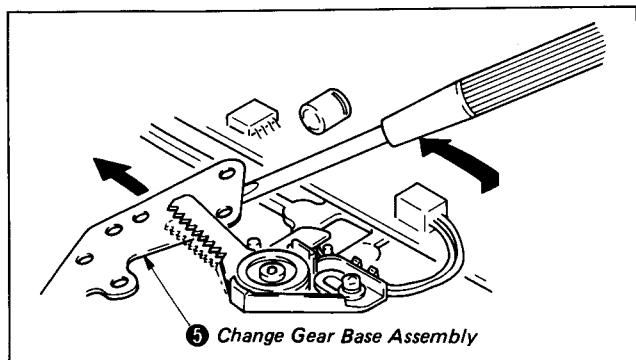
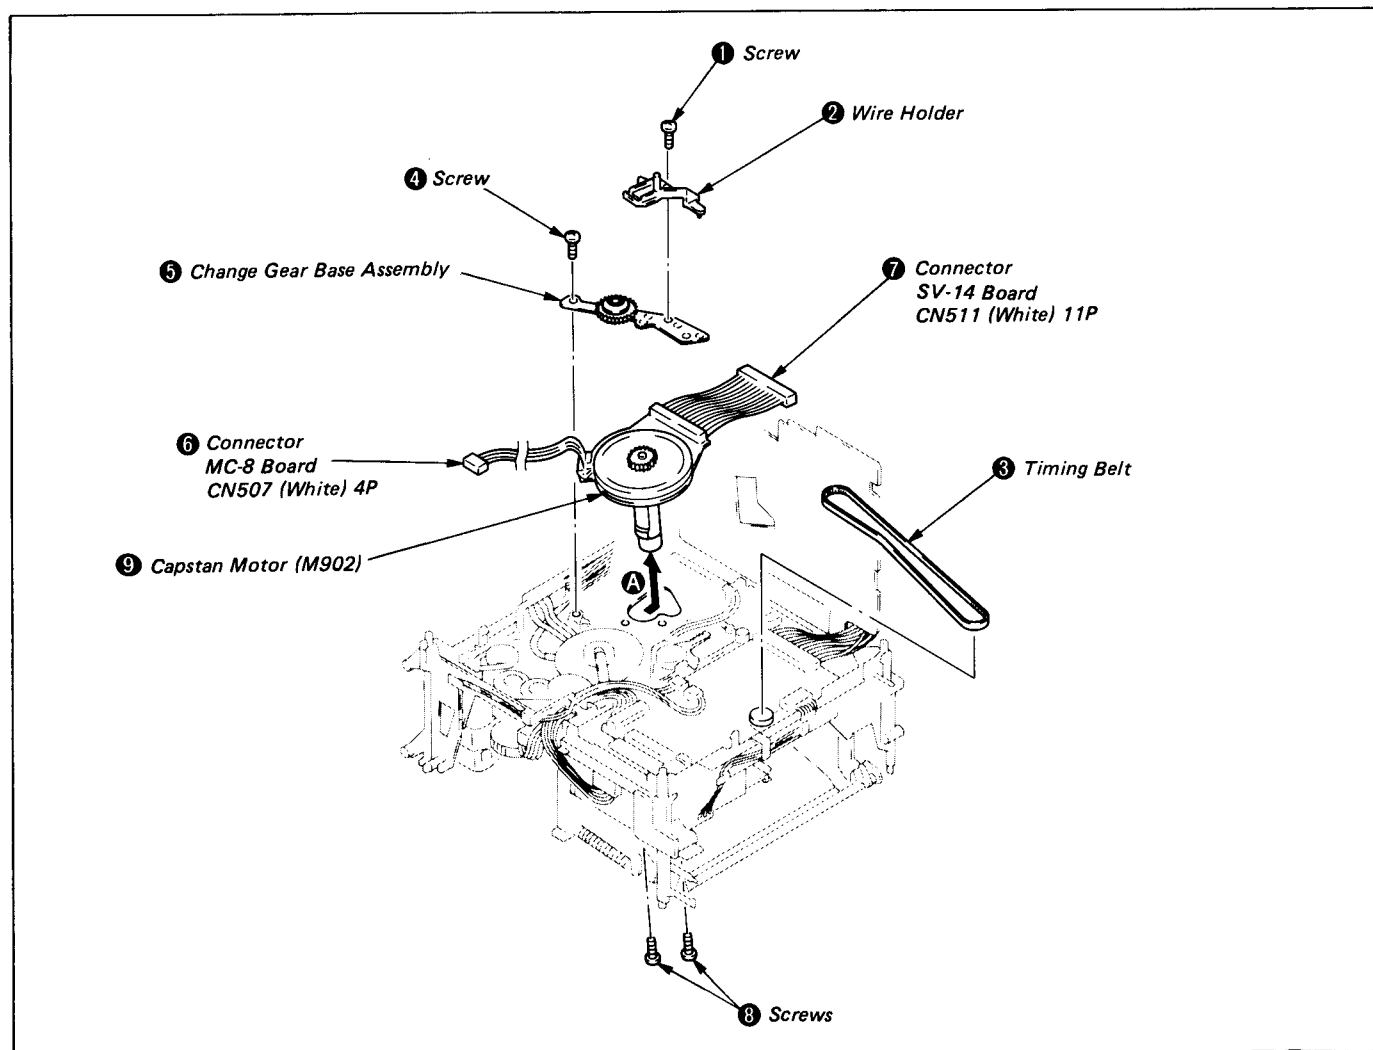

Fig. 1-47
Fig. 1-48
- 6) Remove the screw ④ and the change gear base assembly ⑤ using a screwdriver. (See Fig. 1-47 and 48.)
- 7) Disconnect the connectors ⑥ and ⑦.
- 8) Remove two screws ⑧ and capstan motor (M902) ⑨ as shown by the arrow A. (See Fig. 1-48.)
- 1) Remount the capstan motor (M902) ⑨ and tighten two screws ⑧.
- 2) Reconnect the connectors ⑥ and ⑦.
- 3) Remount the change gear base assembly ⑤ and tighten the screw ④.
- 4) Re-place the timing belt ③.
- 5) Remount the wire holder ② and tighten the screw ①.
- (See Fig. 1-48.)